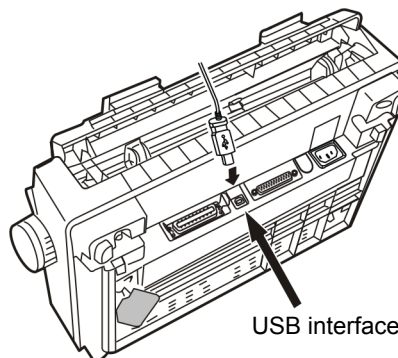

Figure 1-22 Connect to the USB cable
2. Plug the B end of the USB cable (square shape) into the printer's USB interface. (As figure1-22 shown)